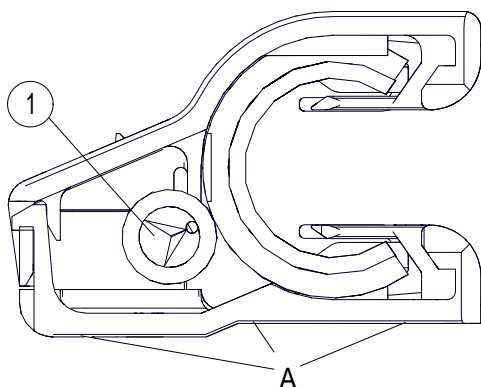

Fig. 81: The electrical connection is outside the center
The flat plug connections or crimp connections are soldered outside the center. The cap must therefore be installed accordingly: The straight side of the cap (A) (one-piece or two-piece) must be located where the connection (1) is located (see Fig. 81).